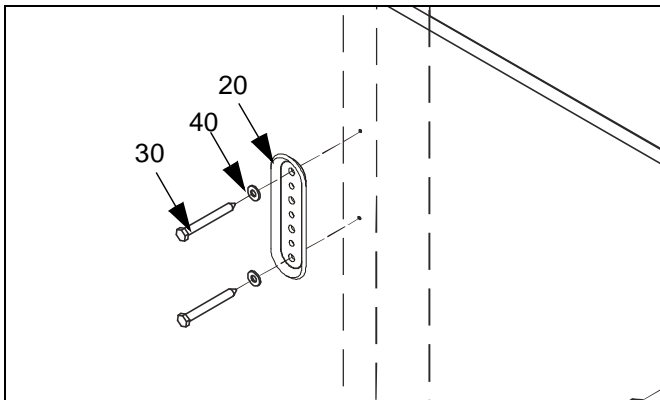

Figure 1: Install Wall Bracket
2. Determine location for mount keeping in mind display size, extension, height adjustment (if applicable), and pitch/roll requirements. Bracket (20) **MUST** be installed into wood stud.
3. Using bracket (20) as a template, drill two 1/8" diameter pilot holes through top and bottom holes of bracket (20) into wall structure (See Figure 1).
4. Using 7/16" wrench, install screws (30) through washers (40), bracket (20), and drywall into wood stud (See Figure 1). Ensure bracket (20) is vertical, then tighten screws (30).